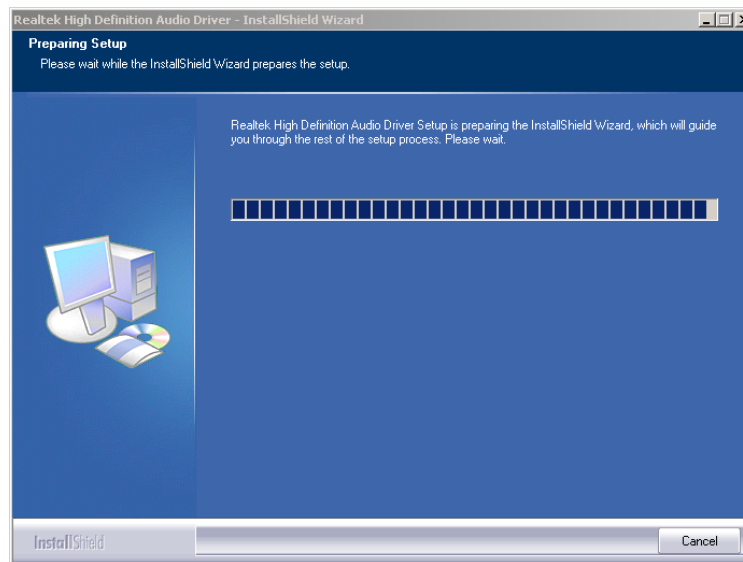

Figure 7-16: Preparing Setup Screen
- Step 5:** The **InstallShield Wizard** is prepared to guide the user through the rest of the process (**Figure 7-16**).